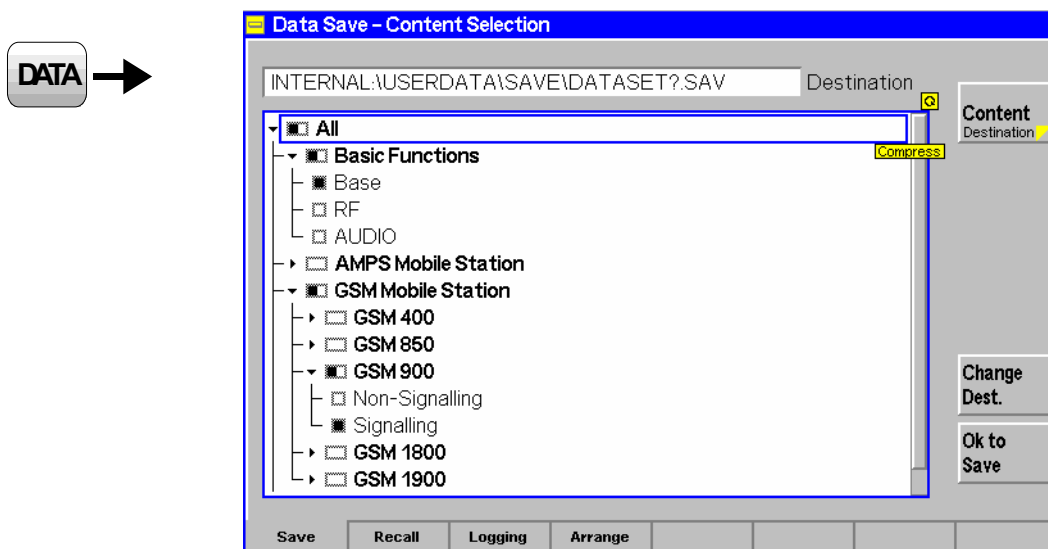

Fig. 4-14 Data – Save menu
*Content/Destination* toggles between the configuration tree (see Fig. 4-14 above) and a view of the directories available for storing the configuration file (\*.SAV). The *Destination* view is analogous to the *Arrange* tab; see section File Manager \(Data – Arrange\) on p. 4.29 ff.